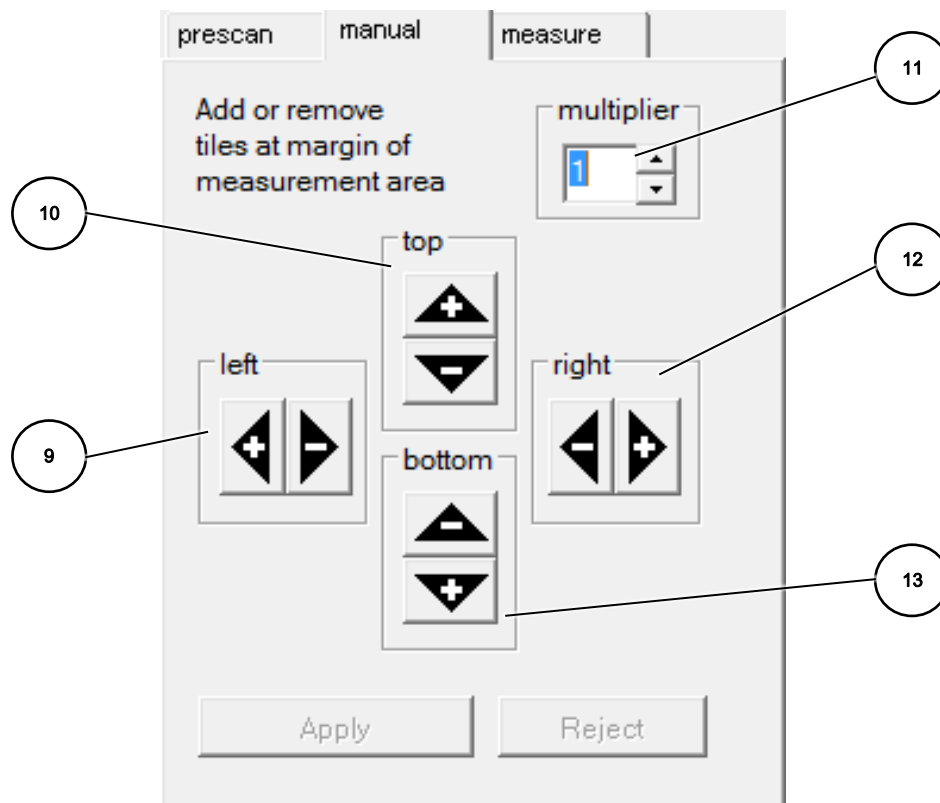

FIGURE 13: THE "MANUAL" TAB OF THE "STITCHING-MEASUREMENT" DIALOG
After the stitching grid is computed by the software you can adjust it using the controls of the second tab (“manual”) in the option and control field (3). The content of the “manual” tab is shown in Figure 13. Using the “+” / “-“ control buttons for specific directions in the “multiplier” field specified number many rows respectively columns can be added or removed to and from the stitching grid.